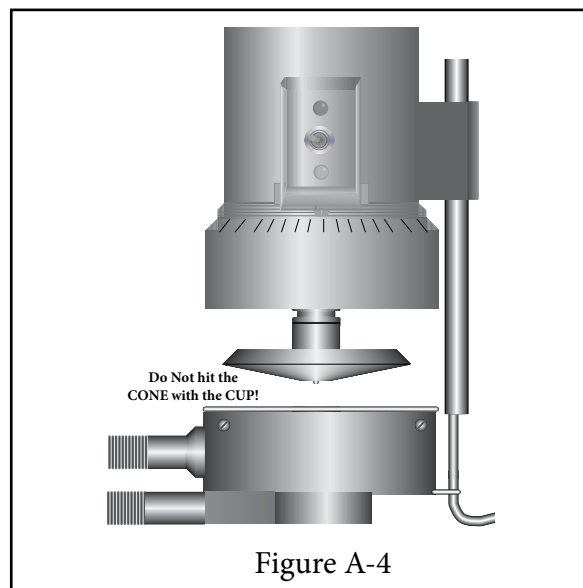

Figure A-4
5. Attach the cup, taking care not to hit the cone with the cup (**Figure A-4**). There must be no fluid in the cup.